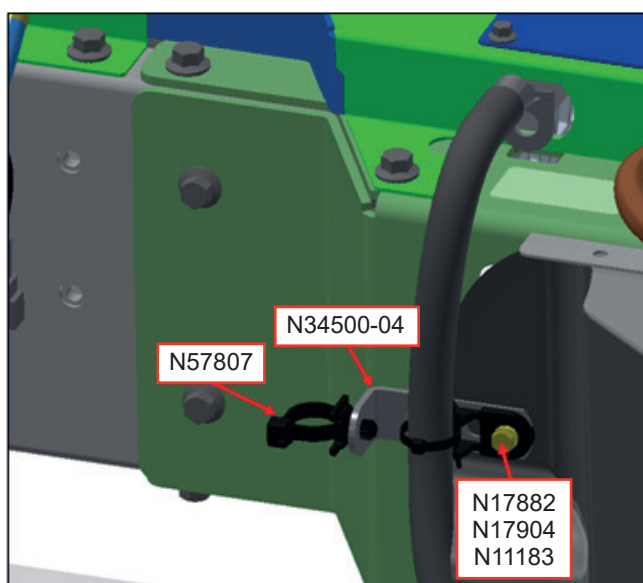

Figure 7 - Installation of Bracket
- 1.11. Remove the existing bolt, lock washer and washer from the power cable support mount (see figure 7).